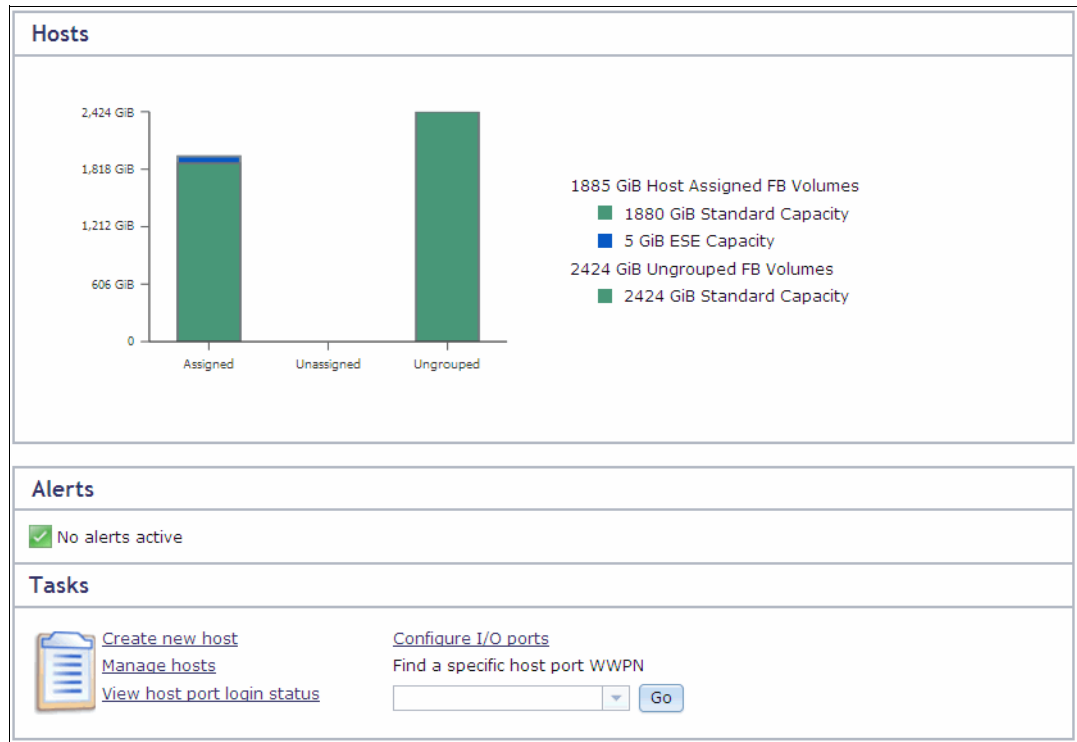

Figure 13-37 Host connections summary
1. Hover over **Hosts** and click **Hosts**. The Host connections summary displays as shown in Figure 13-37 on page 336.